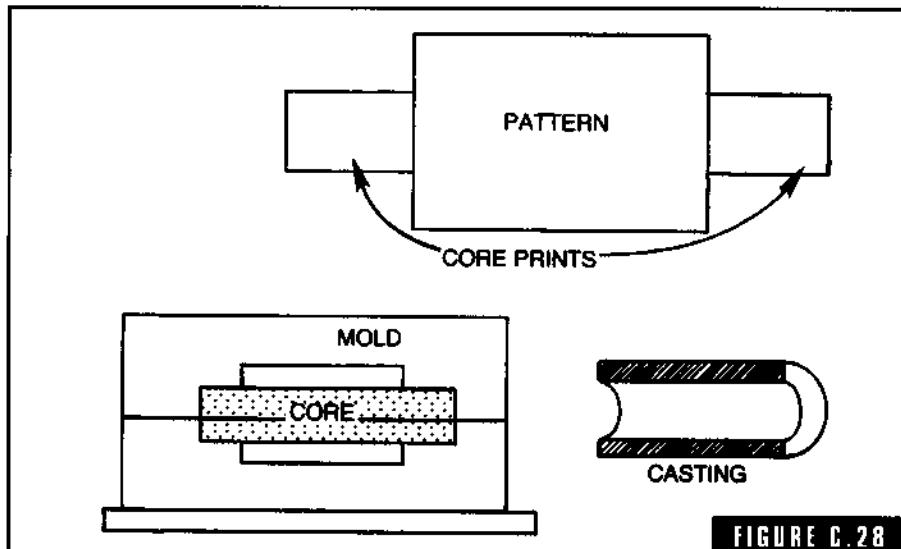

FIGURE C.28
**core print** An extension on a pattern which makes a print in the mold cavity used to hold and locate the core in the proper position and alignment in the mold during casting (Fig. C-28). The core print on a core is that part of the core that rests in a print in the mold.